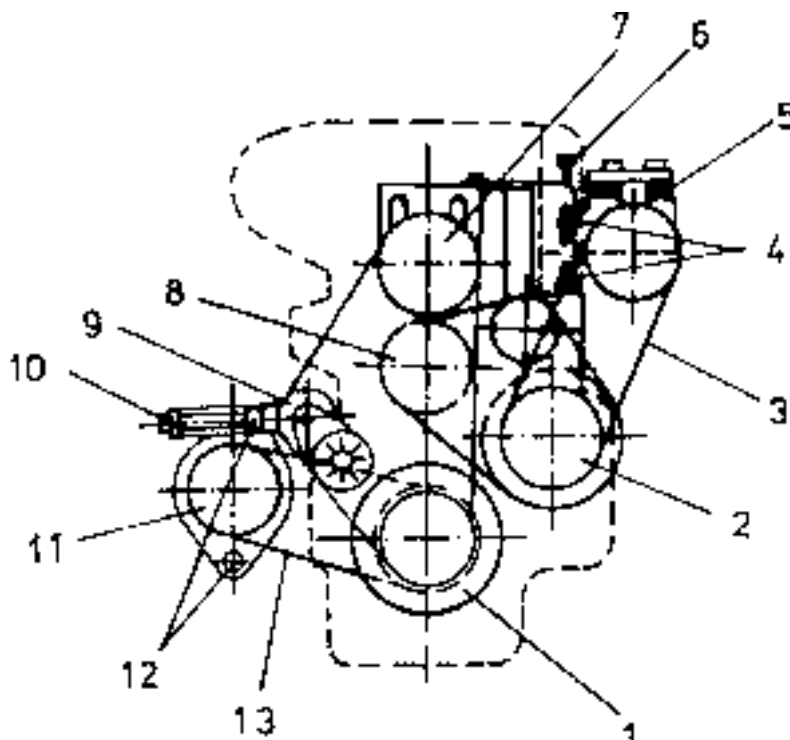

Fig. 5.4. Belt Tension Adjustment
5.7.2.1. AIR CONDITIONING COMPRESSOR BELT ADJUSTMENT (Fig. 5.4)
1. Loosen mounting bolts (4).
2. Turn in or out the adjusting bolt (6) to increase or decrease belt (3) tension.
3. Tighten mounting bolts (4).
4. Tighten the adjusting bolt (6) with a standard torque.
5.7.2.2. ALTERNATOR BELT ADJUSTMENT (Fig. 5.4)